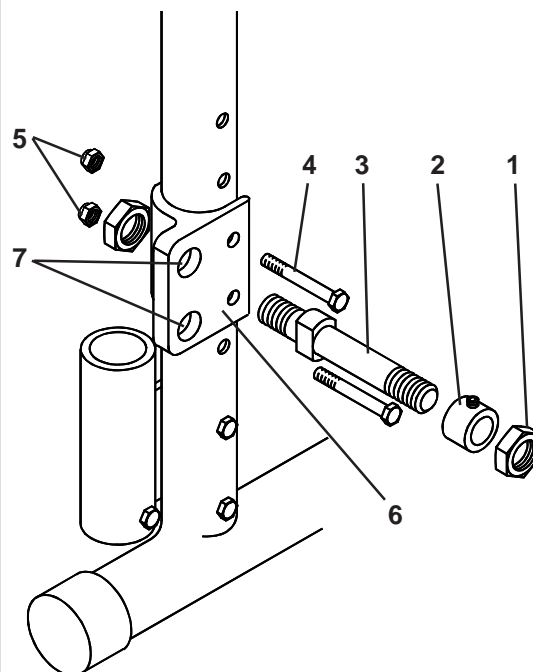

Fig. 37
To adjust the centre of gravity (Fig. 37) remove the wheel, by unscrewing the 19mm A/F retaining nut (1, if quick release axles are not fitted), the wheel spacer (2, if fitted), the axle (3), the two bracket retaining bolts (4) and nuts (5) using 10mm A/F spanners. Move the bracket (6) to the rear position, as shown, and replace the bolts and retaining nuts and tighten them to 8-10Nm torque setting, replace the axle in the required hole (7) and tighten to 81Nm. Replace the wheel, spacer and retaining nut and tighten to 45Nm.